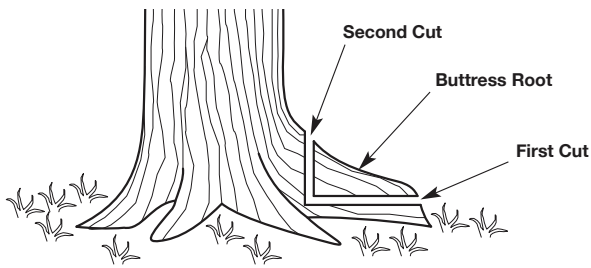

Fig. 10
- Make a horizontal cut into the buttress root (Fig. 10). To prevent the guide bar from being pinched by the weight of the wood, always make this cut first.
- Make a vertical cut into the buttress root (Fig. 10).